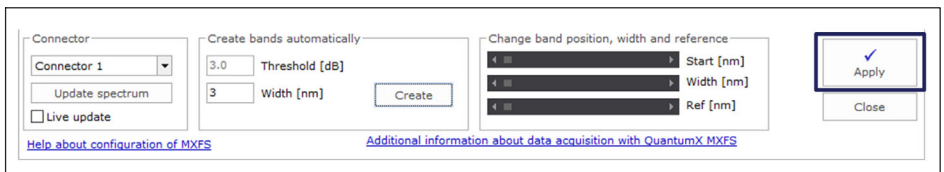

Fig. 4.12 Apply definitions to the device
- Press **Apply** for the changes to be transferred to the device (Fig. 4.12).